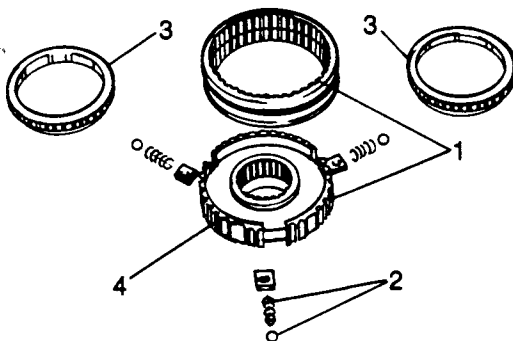

Fig H1.145
- (1) Refer to Fig H1.145. To maintain the matched position of the outer and inner bodies (1) of the synchro unit, it is convenient to mark both bodies to ensure maximum slide movement when building the unit.
- (2) Before stripping, take care to avoid losing any of the three balls or springs (2).
- (3) To facilitate stripping, one of the synchro baulk rings (3) must remain in its working position.
- (4) Strip the synchro assembly and push the inner body (4) downwards by means of a synchro cone. The balls and springs will be free from the pressure they make on the outer synchro. It is recommended that the synchro unit be wrapped in a cloth for this operation to avoid the loss of the balls and springs.
- (2) The references on Figs H1.145 and H1.146 refer to the same components.